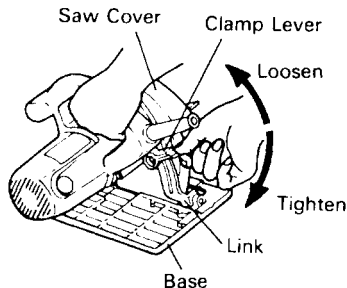
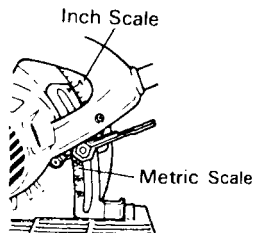

Fig. 6
Fig. 7
1. Adjusting the cutting depth (Fig. 6, Fig. 7)